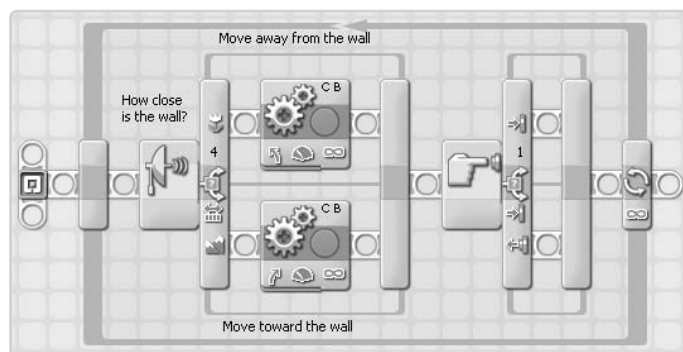

Figure 7-14: Adding another Switch block
13. Drag a Switch block into the Loop block, placing it to the right of the existing Switch block. The program should look like Figure 7-14. Keep the default settings for this block since they use the Touch Sensor. The blocks on the upper Sequence Beam of the Switch block will be used if the robot runs into a wall and the Touch Sensor is pressed.